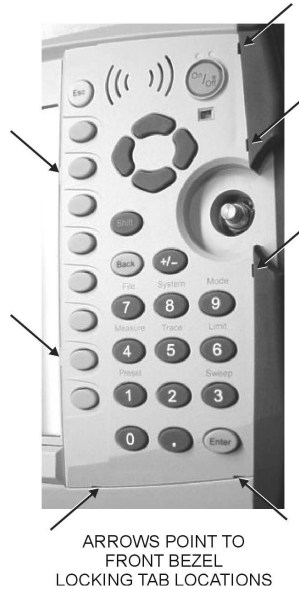

Figure 21. Front Panel Keypad Bezel
2. There are eight locking tabs holding the keypad bezel to the case. Using a small flat-blade screwdriver, carefully pry the front bezel locking tabs free of the main body of the case. This will expose the keypad membrane (Figure 21).